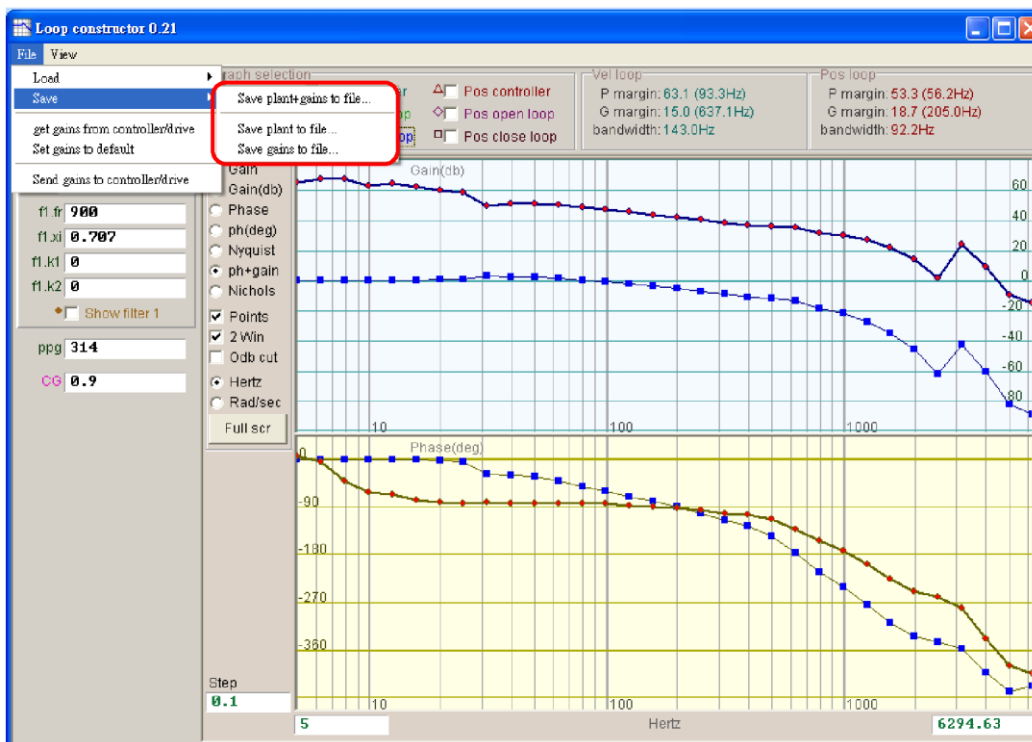

Fig. 6-39 Loop constructor save data to file
When it is needed to save the control system and gain parameters is needed after the loop constructor analysis, users can save them by selecting File->Save from the Loop Construction interface. There are three kinds of files can be saved, such as (1) Save plant+gains to file... (2) Save plant to file... (3) Save gains to file... as shown in Fig. 6-39.
- (1) Save plant+gains to file...: Save the .lop file. This file contains the control system and gain parameters.
- (2) Save plant to file...: Save the .fgr file. This file contains the control system.
- (3) Save gains to file...: Save the .gns file. This file contains the control gain.